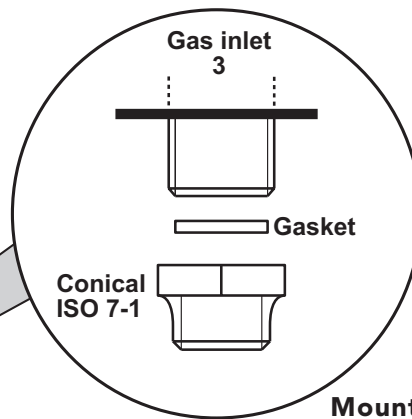

fig. 3b
The gas connections must be made at gas inlet (see fig. 3 - key 3), with a rigid metal pipe, or a stainless steel flexible continuous-wall pipe, fitting a gas cock between the system and the boiler. Before installation, mount the threaded adapter ISO 7-1 contained in boiler package, as shown in fig. 3b. Check that all the gas connections for tightness.